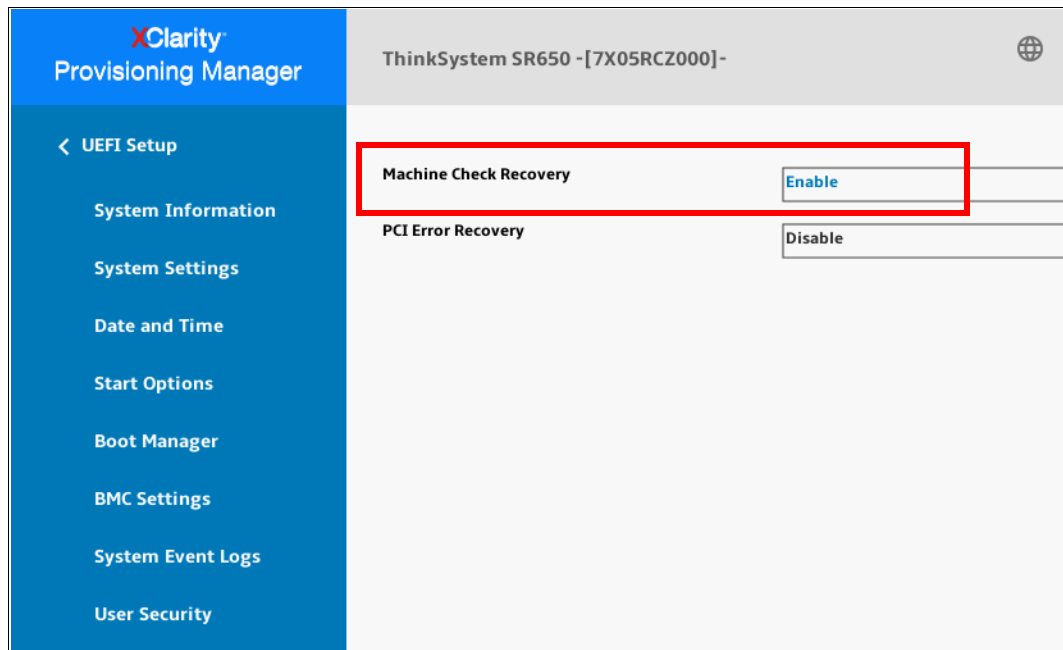

Figure 10 Advanced RAS
4. Enable **Machine Check Recovery** as shown in Figure 10